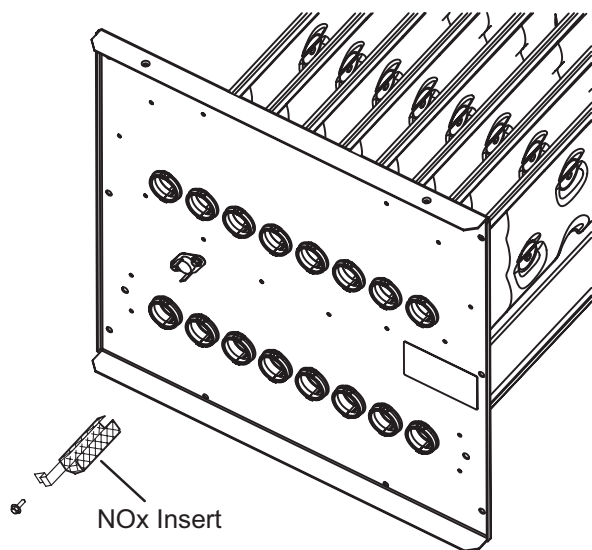

FIGURE 24
- 8 - **NOX units only** - Remove screw securing NOX insert. Remove NOX insert. FIGURE 24.